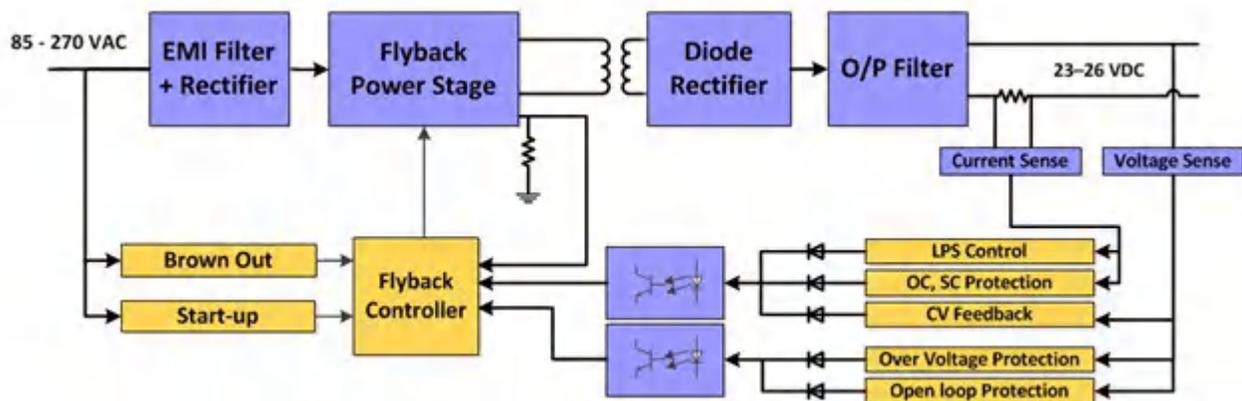

Figure 1. Typical Block Diagram Showing the Conventional Architecture of a 100W Industrial Power Supply
To address the needs of protection and limiting, conventional power supplies as illustrated in Figure 1 rely on multiple feedback loops based on two or more optocouplers. These optocouplers transmit the load voltage, load current and open-fault information to the main controller – typically a flyback controller for wattages up to 150W. In addition, the current-sensing circuitry has external current-sense resistors, precision operational amplifiers for amplification and setting the constant current-constant voltage (CC-CV), and constant power feedback loops. Overall, discrete circuits have high component counts, use up valuable real estate on the board and add cost to the system.
- Precise current and power limit, just with primary-side sensing. In the conventional approach shown in Figure 1, the output load current is sensed through discrete operational amplifier circuits and transmitted to main controller through opto-coupler. In some cases an additional opto-coupler is used for feedback redundancy. The proposed architecture, on the other hand, uses cost-effective and reliable primary-side current sensing. A high degree of precision in the output-current limit is made possible by precision PSR current-sense techniques embedded into the UCC28740. The current limit causes the voltage foldback and ensures tight power limiting.
- Cost-effective open-loop protection and feedback redundancy. The conventional approach shown in Figure 1 uses two feedback loops, both of which are based on optocouplers. The identical nature of these optocouplers and their associated circuitry bring in an additional risk of failure; each of the optocouplers can fail simultaneously under similar stress conditions, which can be detrimental.